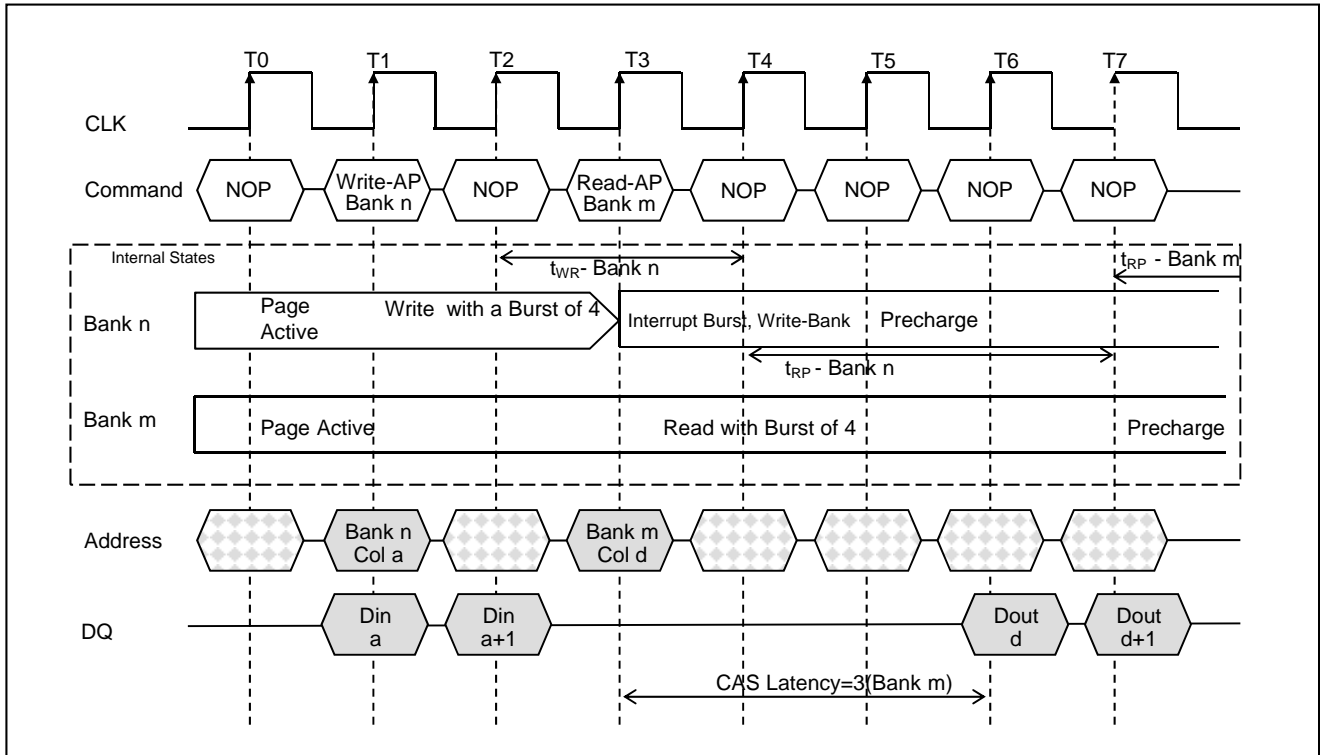

Figure 27. Write with Auto Precharge Interrupted by a Read(CAS Latency =3)
3. Interrupted by a Read (with or without auto precharge): A Read to bank m will interrupt a Write on bank n when registered , with the data-out appearing CAS latency later. The Precharge to bank n will begin after t_{WR} is met, where t_{WR} begins when the Read to bank m is registered. The last valid Write to bank n will be data-in registered one clock prior to the Read to bank m.(Figure 27.)